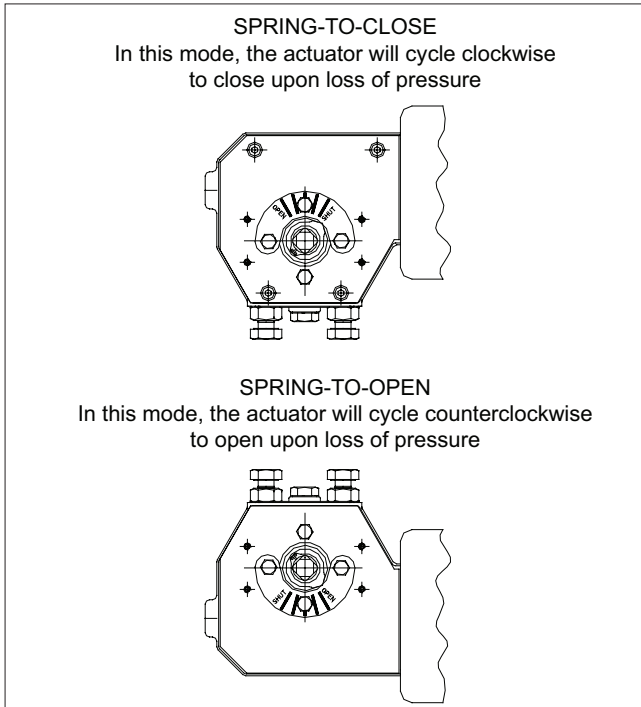

Figure 2.
1. Check to see that the position indicator on the actuator is assembled correctly for the desired failure mode, either spring-to-close or spring-to-open. In the spring-to-close mode, the actuator will cycle clockwise to close upon loss of pressure. In the spring-to-open mode, the actuator will cycle counterclockwise to open upon loss of pressure. (Figure 2.)
2. If the actuator is not set up in the configuration desired, remove the four hex head screws (33), indicator plate (12), indicator pointer (24), and remount them on the opposite mounting surface. In the female actuators, the fastener identification plate shows the failure mode of the actuator.